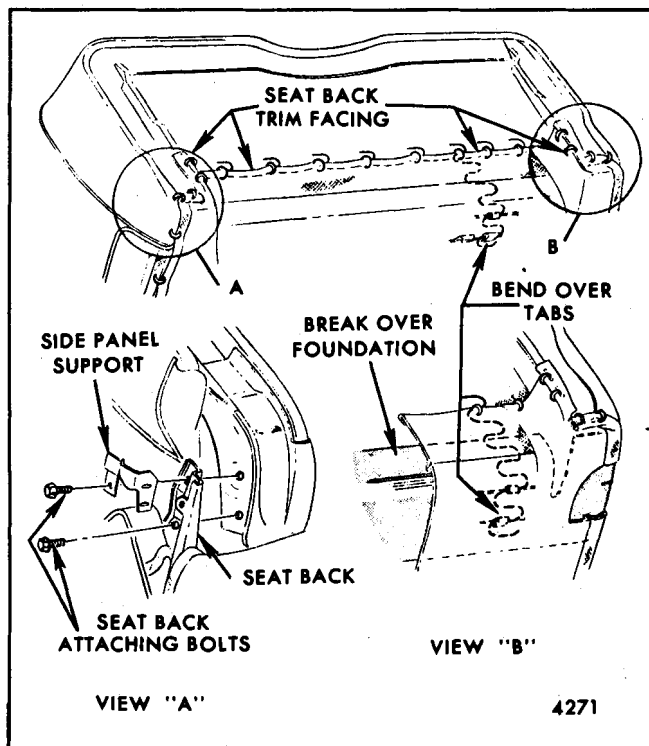

Fig. 14-23-Front Seat Back Attachment - Typical Four Door Attachment-"A" Style Full Width Conventional Seat
- Remove hog rings securing lower edge of seat back trim to seat cushion springs (see Fig. 14-23).
- Raise lower edge of seat back trim, detach fiberboard breakover foundation and bend out tabs on seat back frame securing seat cushion springs. Disengage springs from tabs (Fig. 14-23).
frame. Raise or turn back seat back trim to expose bolts securing seat back frame to seat cushion frame (Fig. 14-23). Where seat back lighter or courtesy light is present, disconnect wire from seat cushion frame.